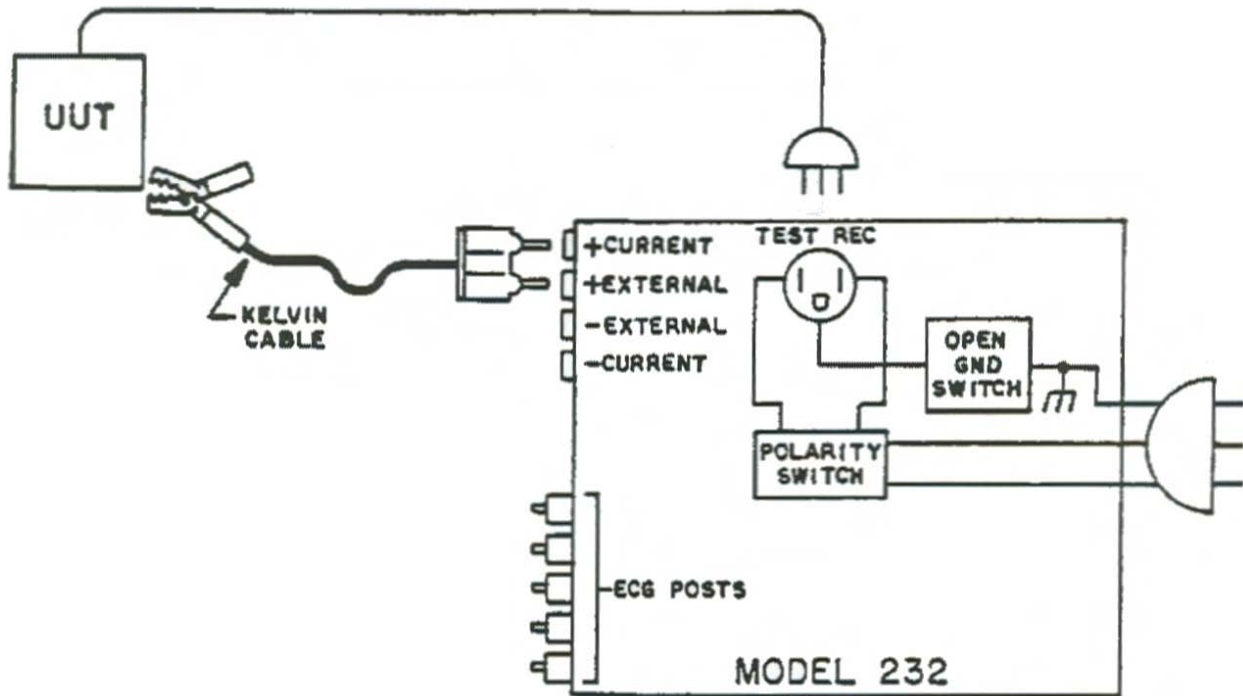

Figure 2-3. Connections for testing power cord ground resistance and case leakage current.
- d. **Check the Case Leakage Current.** Refer to figure 2-3. Perform the following steps.
- (1) Set the mode switch to CASE LEAKAGE.
(2) Connect a Kelvin cable to the red rear panel jacks. Current is disabled in this mode so you can leave the cable connected for both resistance and leakage current tests.